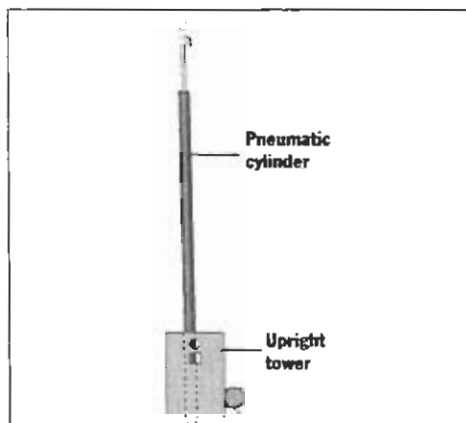

Figure 15
1. Position the pneumatic cylinder in the upright tower. The cylinder handle should be on the right side (Figure 15).